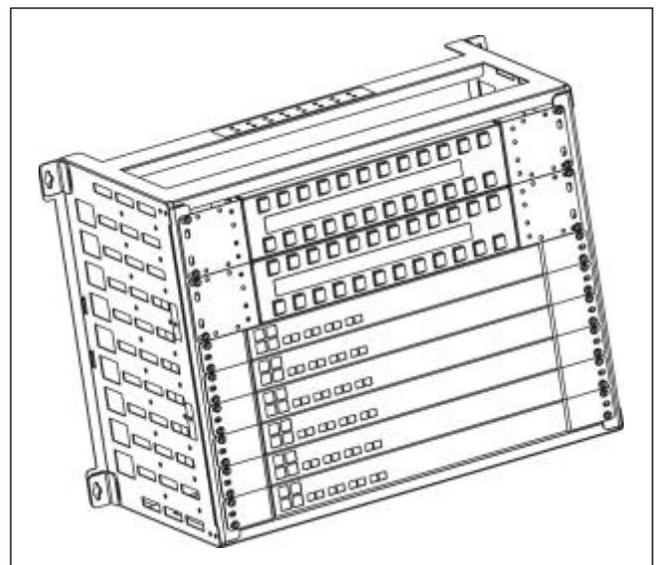
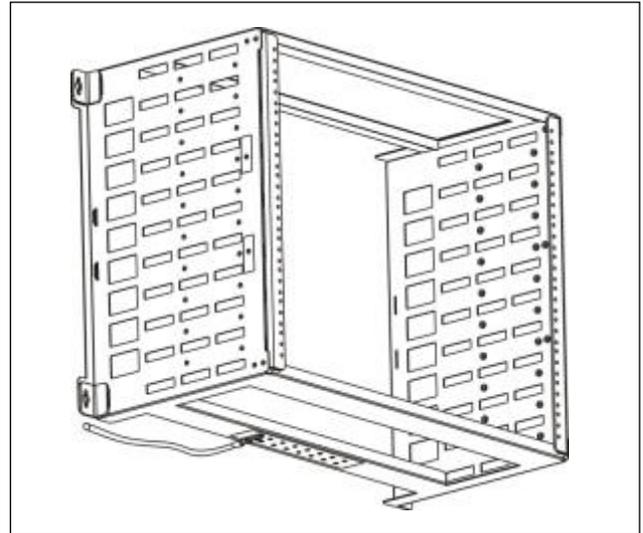

Figure 2. WR-10U23 w/ equipment installed (example)
Figure 7. Frame grounding example
- ④ Remove the mounting frame from the wall and drill pilot holes for each of the marked screw locations.
- ⑤ Before attempting to fasten the mounting frame to the wall, insert a screw into the top pilot hole on either the left or right side. Partially thread the screw into the hole, leaving the screw head approximately 1/4" from the surface.
- ⑥ Hold the mounting frame against the wall while resting the cutout of the bracket on the installed screw. Align the other five mounting holes and install a screw in each hole. Tighten all six (6) screws securely.
- ① Locate the eight (8) pairs of pre-installed grounding screws with lock washers on the crossbar of the frame. The grounding screws are 10-32 x 3/8" on 5/8" centers.
- ② Install a dual ground lug (customer provided) with holes on 5/8" centers beneath the included screws and washers on one pair of grounding holes. Tighten the screws to fasten the lug to the mounting frame. The example in Figure 7 illustrates the frame positioned with grounding screws facing downward.
- ③ Connect a ground wire of appropriate gauge to the ground lug, and attach the other end of the wire to a bonded ground point, per local procedures for network equipment.
- ① Install rack equipment with 23" hole spacing by carefully sliding the chassis through the front of the WR-10U23 and aligning chassis mounting ears with the threaded holes in the rails of the WR-10U23 frame. Insert and tighten #12-24 machine screws (customer provided) on each side of the chassis. An example of a fully populated wall rack is shown in Figure 2.